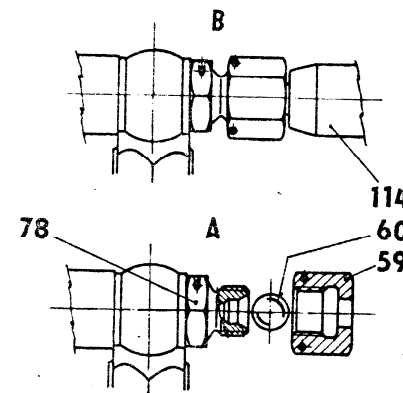

Figure 11-34 Manometer connection
#### (2) Relief valve adjustment check - see figure 11-34